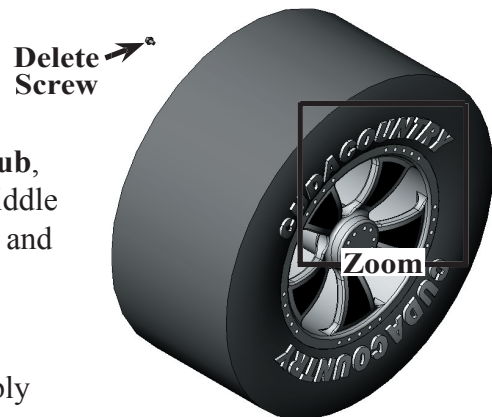

Fig. 12
Step 2. Delete Screw, **Fig. 12**.
Step 3. Zoom in on **one "set" of holes in rim flange and hub, Fig. 12**. To **zoom**, hold down **Shift** key and drag middle mouse button (wheel). To **pan**, hold down **Ctrl** key and drag middle mouse button (wheel).